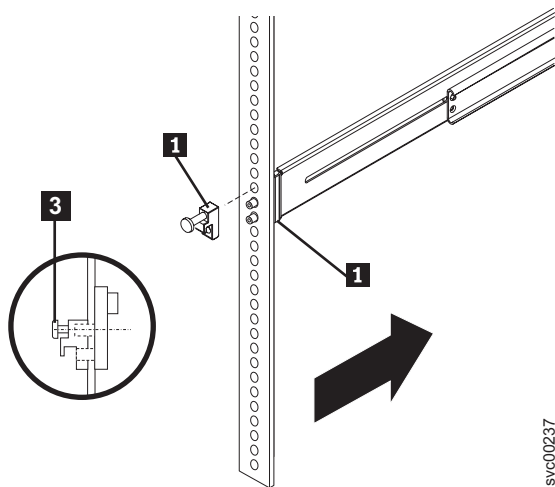

Figure 44. Removing the latch strike from the front of the slide rail
1. Loosen and remove the captive screw **3** and latch strike **1** from the left rear mounting flange, as shown in Figure 44 on page 65, to release the slide rail **2**. Loosen and remove the captive screw from the right rear mounting flange and release the other slide rail in the same way.